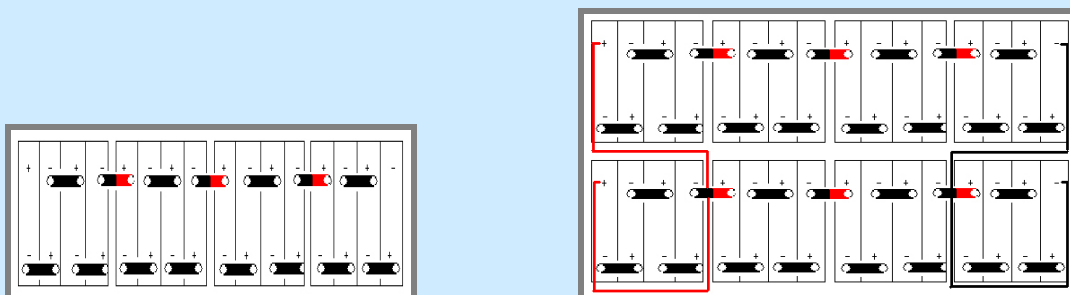

Figure 2: Connection of one row batteries (2KWH)
10. Wiring: ① Pull off the protection cap of the battery terminals (positive and negative) between two battery packs, use red / black short jumper cable to put them in series as shown in Figure 2. If it is a 4KWH model, connect two strings of the 2KWH battery packs in parallel (positive to positive, negative to negative terminals); ② Connect the DC/DC converter (11) to the end terminals of the battery pack, red to positive and black for negative. ③ Connect the white connectors to the balancers. ④ Connect the grey Anderson connector to the charger.
13. Bumper outlet for charger connection. Black wire: Live line (L); White wire: Null Line (N); Green wire: Ground Line(E).